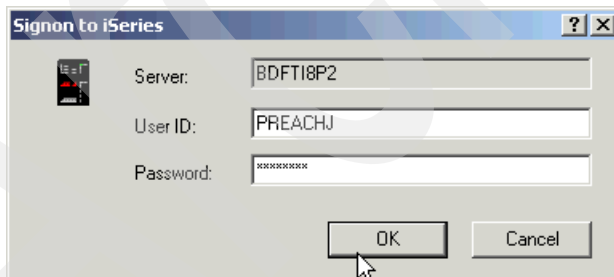

Figure 17-7 System i Navigator Signon to System i window
2. Expand the System i to which you want to add the logical volume and sign on to that server, as shown in Figure 17-7.